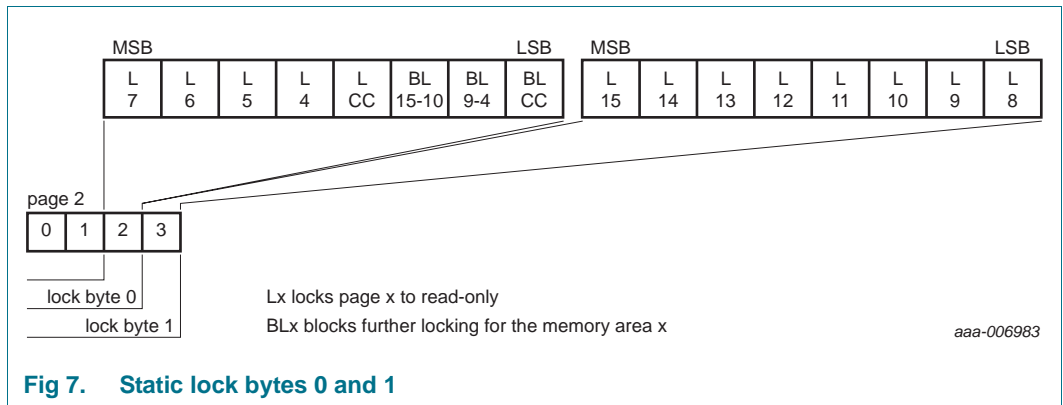

Fig 7. Static lock bytes 0 and 1
The bits of byte 2 and byte 3 of page 02h (via RF) or byte 10 and 11 address 0h (via I2C) represent the field programmable, read-only locking mechanism (see Figure 7). Each page from 03h (CC) to 0Fh can be individually locked by setting the corresponding locking bit Lx to logic 1 to prevent further write access. After locking, the corresponding page becomes read-only memory.
To lock the pages of NTAG I2C starting at page address 10h and onwards, the dynamic lock bytes are used. The dynamic lock bytes are located at page E2h sector 0 (NTAG I2C 1k) or address E0h sector 1 (NTAG I2C 2k). The three lock bytes cover the memory area of 830 data bytes (NTAG I2C 1k) or 1846 data bytes (NTAG I2C 2k). The granularity is 16 pages for NTAG I2C 1k (see Figure 8) and 32 pages for NTAG I2C 2k (see Figure 9) compared to a single page for the first 48 bytes (see Figure 7).